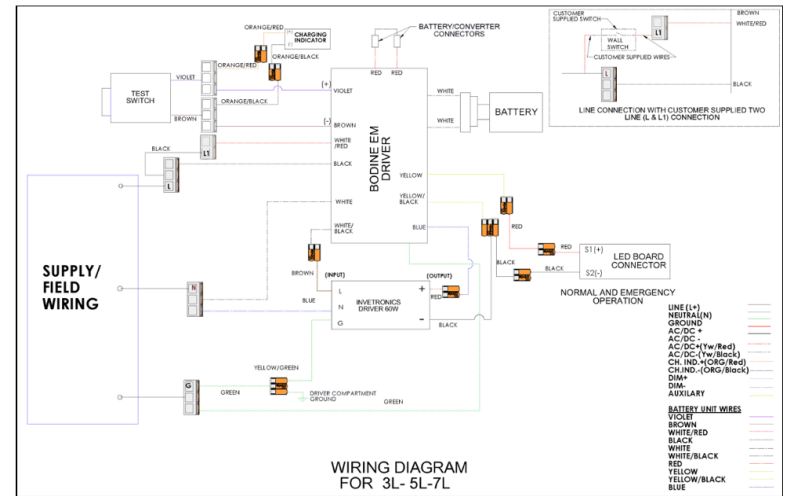

FIGURE 1
3. Verify conduit plugs are installed to at least five (5) full threads into the cover module conduit entries.
5. Verify supply wires are connected to luminaire wire leads per wiring diagrams. All components in the luminaire are pre-wired so only line, neutral and ground need to be connected in the luminaire to the lead wires as per the wiring diagram. Connect the equipment ground connector first, the neutral next and, the line voltage last. Refer Fig 1 and Fig 2 for wiring diagram.
7. Verify captive closing screw is tightened to 30 in.-lbs. (3.4 N-m) and two (2) bosses on driver housing are in contact with cover module.